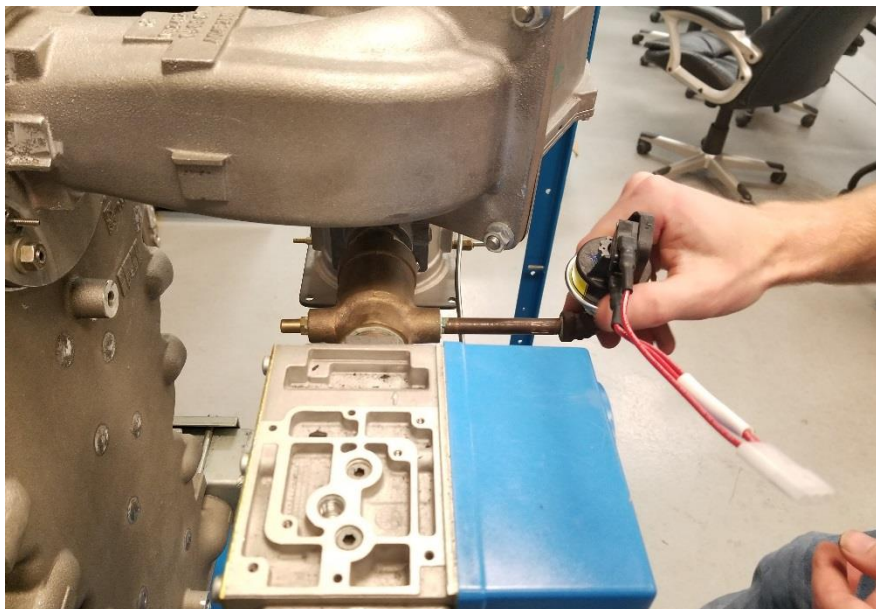

Figure 9
12. In order to install high gas pressure switch, remove stem and install high gas pressure switch onto stem. Then reinstall stem shown in figure 9. Be sure to apply gas thread sealant to new switches